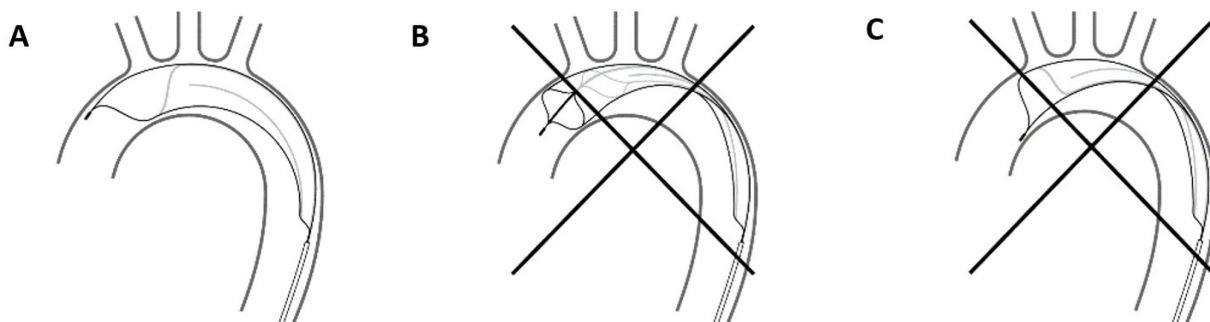

Figure 8 - FLOWer device correct positioning (A-left); device incorrect positioning (B-center, C-right)
- If resistance is perceived when starting the distal structure expansion, fully collapse it, advance the outer catheter (K) until it reaches the tip by fully advancing the outer catheter slider (B), retract the FLOWer, and then advance it again. Attempt positioning once more; if the issue persists, replace the device.
- During the deployment pay attention that the distal structure (F) opens correctly as in Figure 8A. If it opens incorrectly (as for example in Figure 8 B and C), the operator should retrieve the device inside its catheter as described in "13.5 Device Priming" chapter points from 17 to 22. Then, the operator should extract the device from the introducer, rotate the catheter 90° (eg. Figure 8B) or 180° (e.g., Figure 8C) and reinsert it from the introducer. Then, a new deployment procedure as described in points from 7 to 9 of this chapter can be attempted.
- Do NOT rotate the device when the distal structure (F) is fully deployed in the open position.